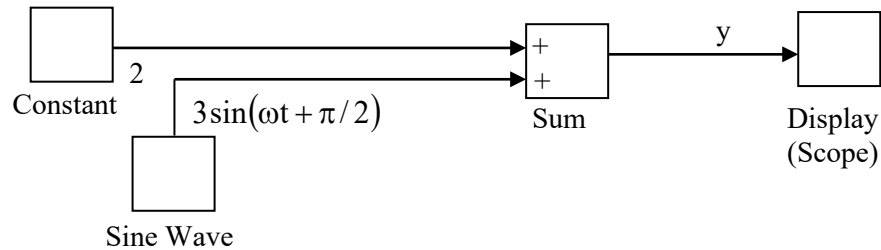

Figure 8 Block diagram algorithm for equation (1)
Block diagram algorithm for function (1) is given in **Fig. 8**.